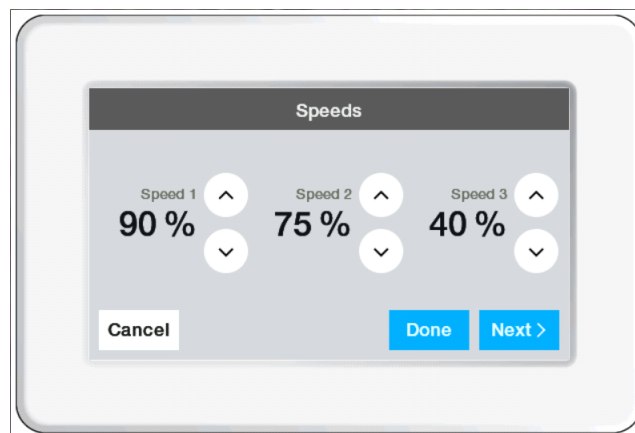

Fig. 7.
- (1) Use the up and down arrow buttons to set the desired speeds.
- (2) 3 speeds can be configured on this screen, press "Next" to configure three more for up to 6 speeds, see Fig. 7.
- (3) Speeds from 40% to 100% are allowed. If not selected, the default is 100%.
- (4) Step 4 is used to assign which of these speeds will be used for each equipment mode (heating, cooling, etc).
- (5) Select "Done" when finished.
- (1) This will open a menu with each equipment mode. Select the ones desired, then select the blower speed. In this example speed 3 (40%), from Fig. 7, is configured for ventilation, refer to Fig. 8 and Fig. 9.
- (2) Click "Done", then configure the speed for each equipment mode, repeat as needed.
- (3) When done, then select "Menu", then "Home."